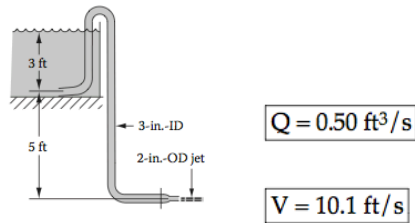

FIGURE P3.60
- 3.60** A siphon is used to drain a tank of water, as shown in Figure P3.60. The siphon tube has an inside diameter of 3 in., and at the exit there is a nozzle that discharges liquid in a 2-in.-diameter jet. Assuming no losses in the system, determine the volume flow rate through the siphon. Also calculate the flow velocity in the 3-in.-ID tube.